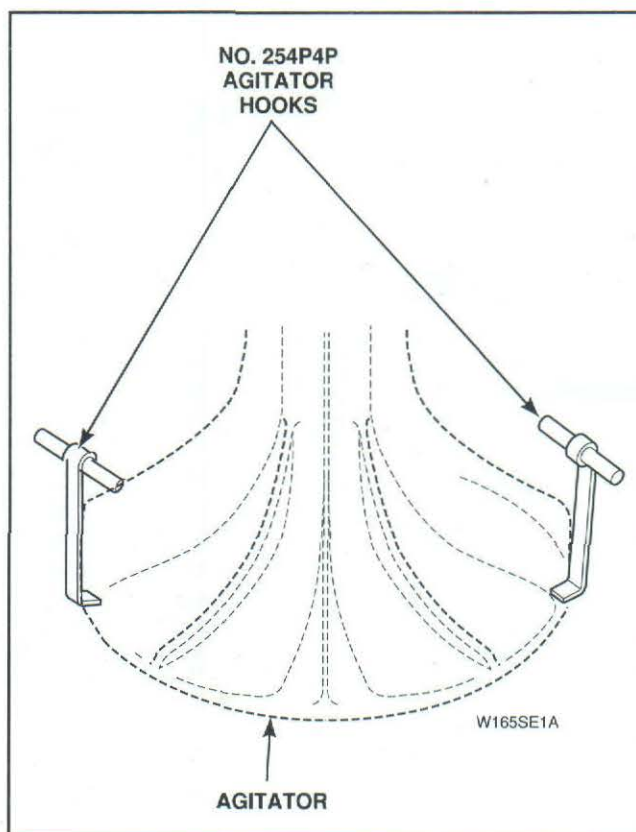

Figure 13
- Remove agitator by placing two agitator hooks, No. 254P4P, under bottom edge of agitator, Figure 13.
- Remove agitator by placing two agitator hooks, No. 254P4P, under bottom edge of agitator, *Figure 13*.